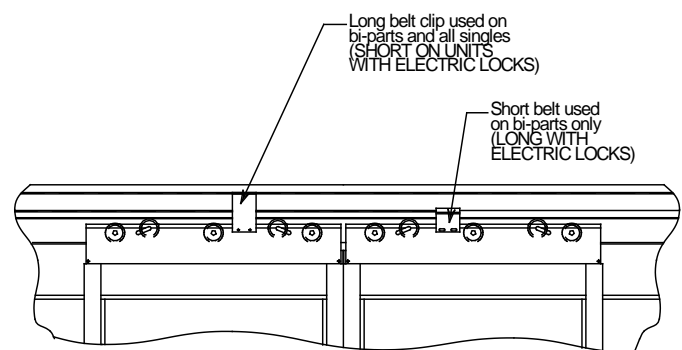

Figure 23
6. Attach belt clips(s) using the  $\#12 \times 3/4$  inch self-drilling/self tapping screws. Starter mounting holes have been pre-drilled in the door carrier. The belt clips should be installed toward the leading edge of the doors. (See Figure 23)